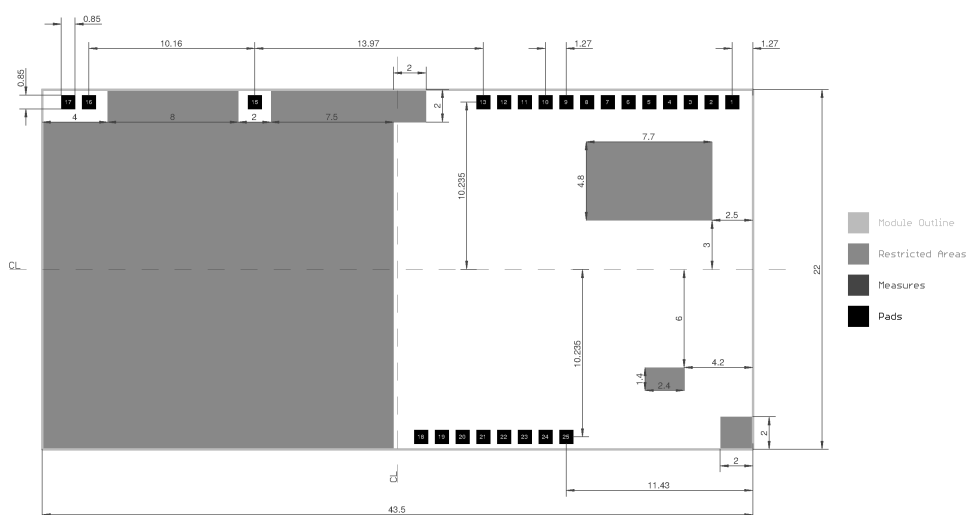

Figure 5: Recommended Footprint
5. The drawing in Figure 5 shows the top view on the footprint (as if you look through the module).